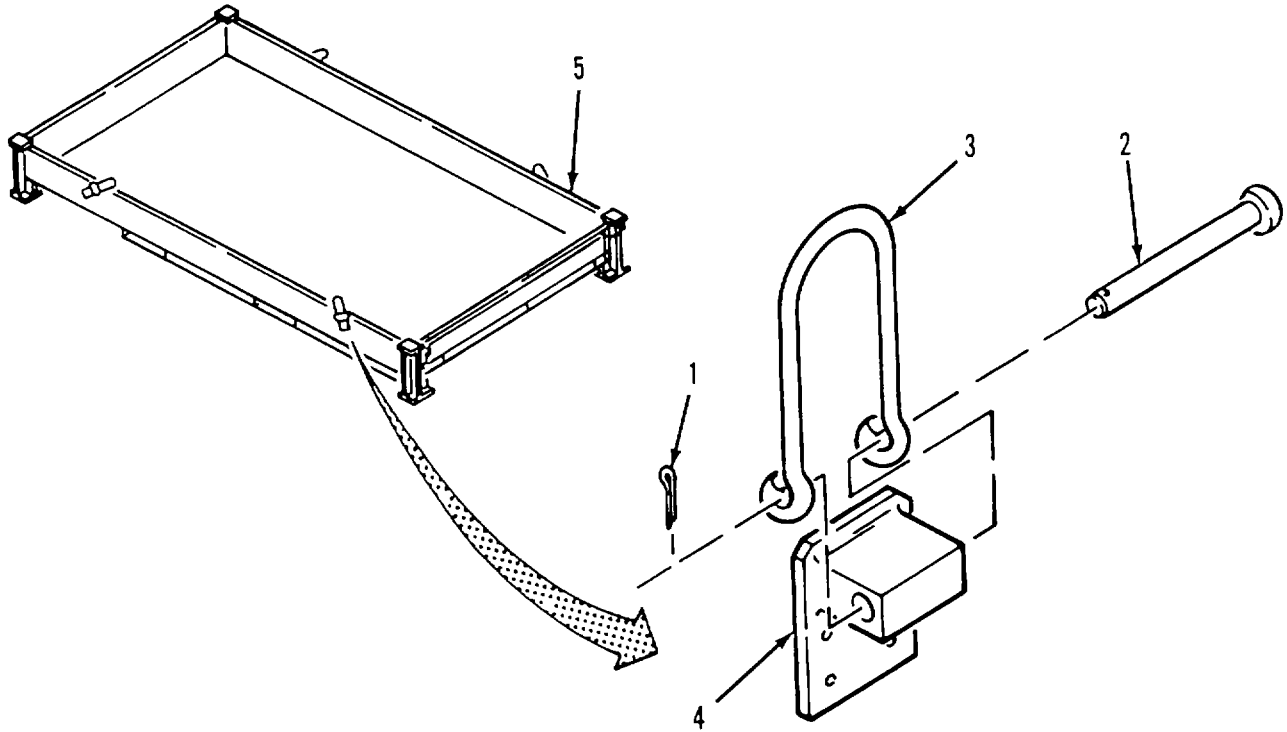

Figure 4-16. Flaking Box Repair
- a. Disassembly. Refer to figure 4-16.
- (1) Remove cotter pin (1) from clevis pin (2).
- (2) Remove clevis pin (2) from bracket (4).
- (3) Separate clevis (3) from bracket (4).
- (4) Repeat steps (1) through (3) for three remaining brackets (4).
- (1) Inspect interior and exterior of flaking box (5) for cracks, broken welds and bent or crushed frame members.
- (2) Inspect clevis, (3), clevis pins (2) and brackets (4) for cracks and signs of wear.
e. Assembly. Refer to figure 4-16.
- (1) Position and align clevis (3) on bracket (4).
- (2) Install clevis pin (2) through clevis (3) and bracket (4). Make sure clevis pin is installed with flat side of head against flaking box (5).
- (3) Install cotter pin (1) in clevis pin (2).